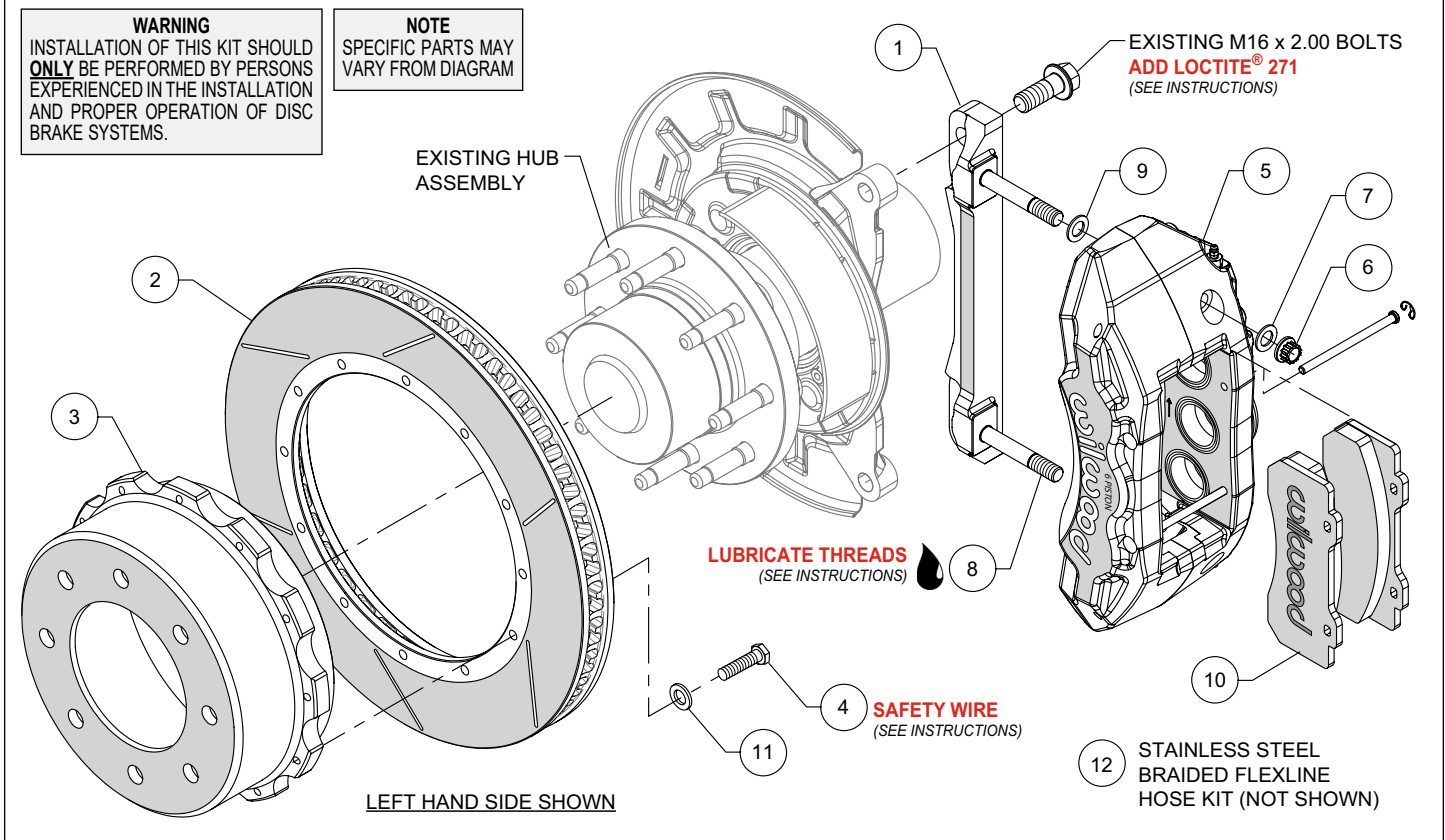
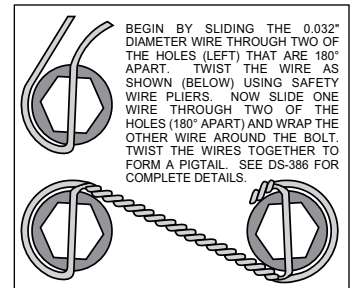

Figure 1. Typical Installation Configuration
Figure 3. Safety Wire Diagram
**NOTE:** Numbers in parenthesis refer to the parts list and Figure 1 on the preceding pages.
- The caliper mount bracket (1) should initially be installed with clean, dry threads on the mounting bolts. Orient the bracket as shown in Figure 1 and Photo 1, and install using saved OE bolts. Temporarily tighten the mounting bolts. **NOTE:** *The bracket must fit squarely against the mount bosses on the upright.* Inspect for interference from casting irregularities, machining ridges, burrs, etc. Remove the mounting bolts one at a time and apply red *Loctite*® 271 to the threads and torque to manufacturer's specifications.
- Orient the rotor (2) and the hat (3) as shown in Figure 1 and Photo 2. Attach rotor to hat using bolts (4) and washers (11). Torque bolts to 25 ft-lb using a criss-cross pattern. The bolts must be safety wired using standard 0.032 inch diameter stainless steel safety wire as shown in Figure 3. Please refer to Wilwood's data sheet DS-386 (available at [www.wilwood.com/Pdf/DataSheets/ds386.pdf](http://www.wilwood.com/Pdf/DataSheets/ds386.pdf)) for complete safety wire installation instructions.
- NOTE:** *This kit contains distinct right and left hand calipers that must be mounted in a specific direction, as described below.* Lubricate the caliper mounting studs (8) with lightweight oil. Initially place one .032" thick shim (9) on each stud as shown in Figure 1 and Photo 3. Mount the caliper (5) onto the bracket (1) using lock nuts (6) and washers (7), Figure 1. Ensure that the caliper is mounted so that the largest pistons are at the rotor exit end of the caliper, in relation to the direction of rotor rotation. Temporarily tighten the lock nuts.
- Remove the two pad retaining pins from the caliper by carefully popping out the pin retaining clips and sliding out the pins. Insert the brake pads (10) into the caliper, with the friction material facing the rotor, as shown in Photo 4 and secure the brake pads in place with the pad retaining pins and clips, Photo 5. Check that the top of the brake pad is flush with the outside diameter of the rotor, Photo 6. If not, adjust by adding or subtracting shims (9) between the caliper and the bracket. After the caliper pad height is set, torque the caliper lock nuts (6) to 65 ft-lb.
- NOTE:** *OEM rubber brake hoses generally cannot be adapted to Wilwood calipers. The caliper inlet fitting is a 1/8-27 NPT (use PTFE tape on pipe threads of adapter fitting for proper sealing to caliper).* Install Wilwood's stainless steel braided flexline hose kit (12), P/N 220-11196 included with this kit. Route the new hose